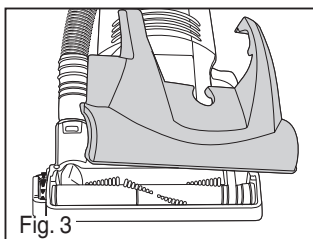

Fig. 3
- 3) Lift off brush roll cover. (Fig. 3).
- 7) Replace brush roll cover (Fig. 3).
- 3) **Hose connector** – twist hose from connector. Remove blockage and replace hose. (Fig 3).